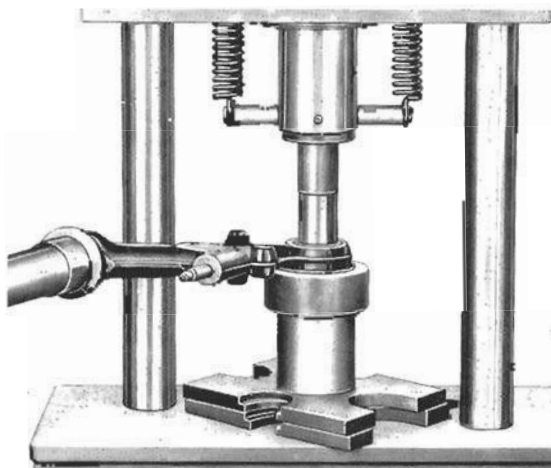

Fig. 7-10. Hydraulic repair press being used to press the ball joint out of the torsion arm.
1. Press the old ball joint out of the torsion arm as shown in Fig. 7-10.